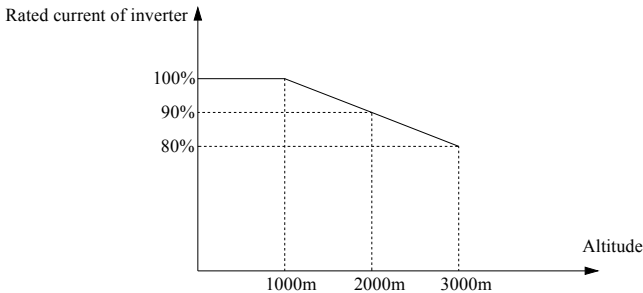

Fig.2-8 Derating at altitude
(3) Derating at altitude: If the altitude is more than 1000 meters, the derating will be 1% for every 100 meters. The drive can be installed at an altitude of up to 3000 meters. As shown in Fig.2-8.